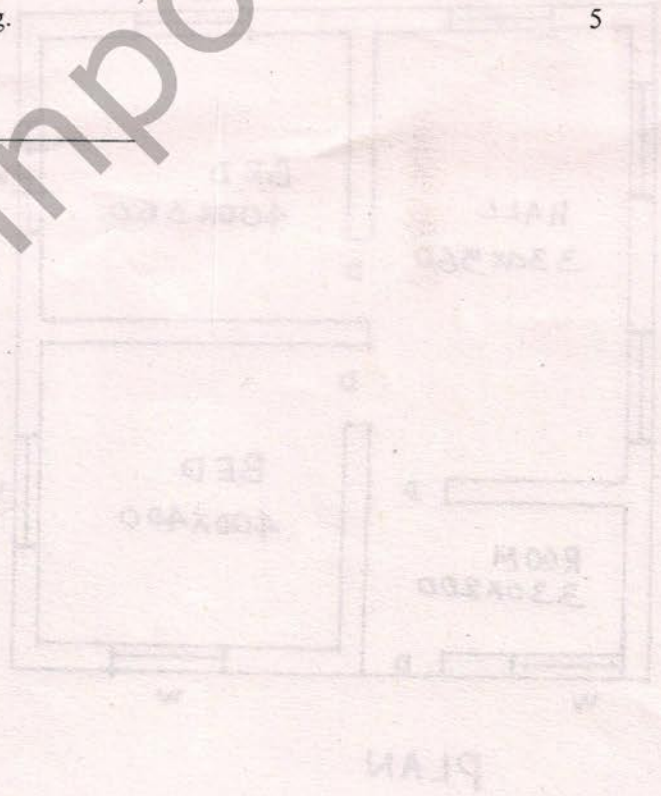

FIG. 1
- IV (a) Find plinth area of the given building in fig. 1, compute the total cost of the building @ ₹9,500/sq.m. 7
- (b) Calculate the quantity of R.C.C. for sun shade for the building in fig. 1. 8
- (b) Calculate the quantity of earthwork for the building in figure 1. 8
- VI (a) Compute the quantities of brick work in figure 1. 7
- (b) Compute the quantity of R.R. masonry in figure 1. 8
- VII (a) Compute area of wall plastering in figure 1. 7
- (b) (i) Determine the volume of R.C.C for roof slab in figure 1. 4
- (ii) Determine the volume of R.C.C for lintel in figure 1. (Lintel is provided on all walls) 4
- VIII (a) Compute the total painting area for doors and windows of building in figure 1. 5
- (b) Calculate the quantity of D.P.C. of building as shown in figure 1. 5